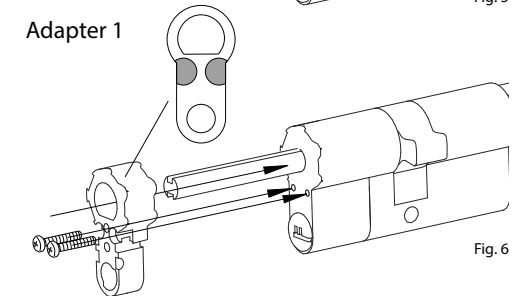

Fig. 6
- 44 - 53 mm = Adapter 1 required (Fig. 6)